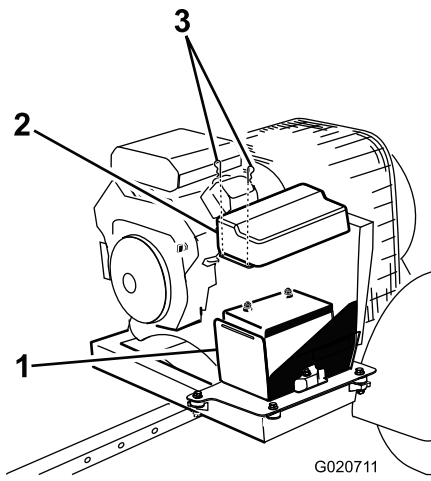

Figure 38
- Remove the clips securing the battery cover to the battery box and remove the cover from the box (Figure 38).